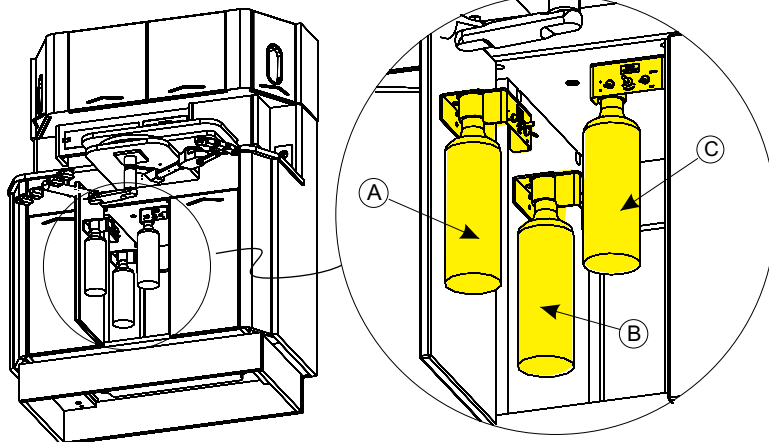

Figure 3
Connect Tail Piece (H) to Drain Assembly (E) and tighten using pipe wrench (see Figure 3). It may be necessary to cut off some of the Tail Piece to properly fit with remaining plumbing drain connections.
See Figure 3